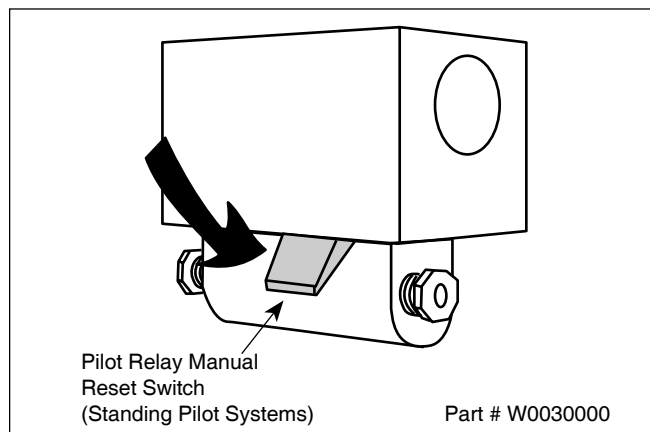

Figure 16. Pilot Safety Relay.
- e. For standing pilot system, press on pilot relay knob (see Figure 16), light pilot and keep relay knob depressed for one minute